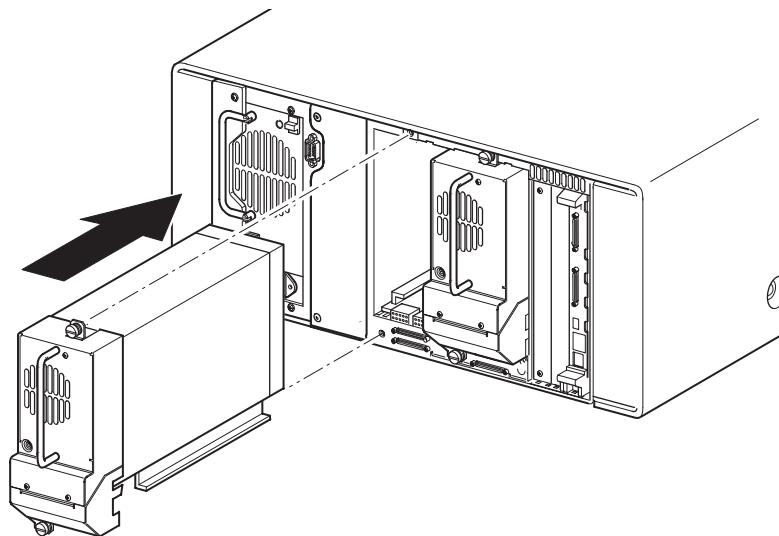

Figure D-2. Installing a tape drive
3. Slowly insert the tape drive into the mounting bay. Make sure you push the tape drive all the way in so it fully seats in the mating connectors at the rear of the library (see Figure D-2).